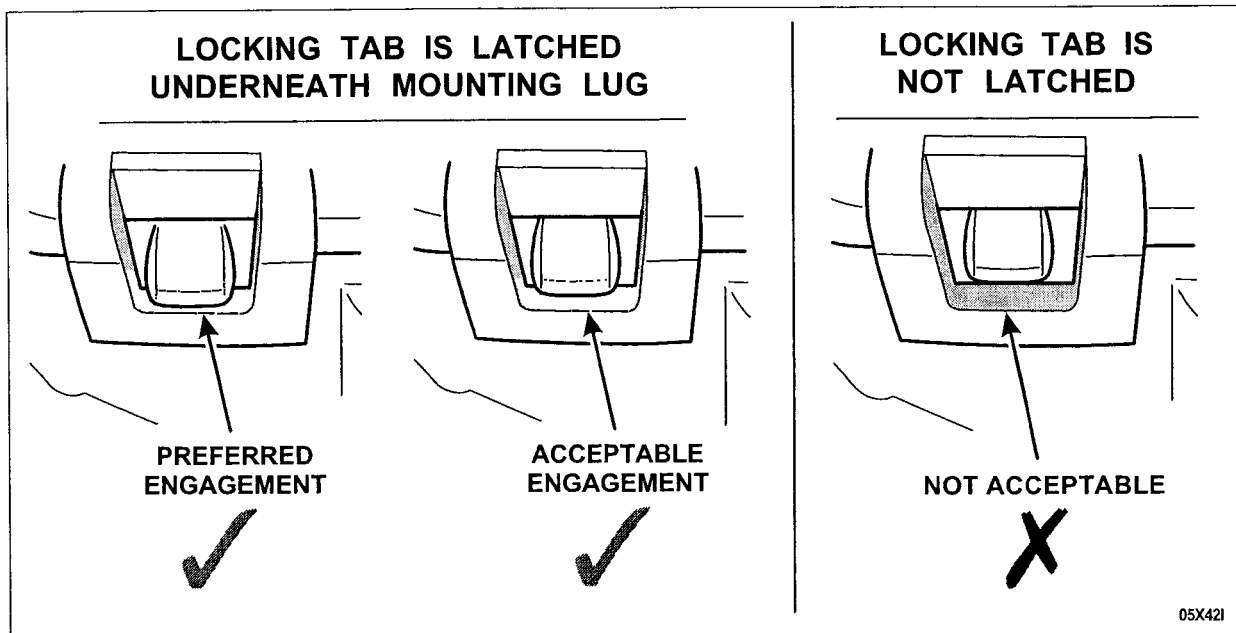

FIGURE 9
- CAUTION:** If any of the locking tabs cannot be correctly latched as shown in Figure 9, contact the Special Service Support Center at 1-800-325-5621 for further instructions. **DO NOT** attempt to remove the cover and reinstall it.